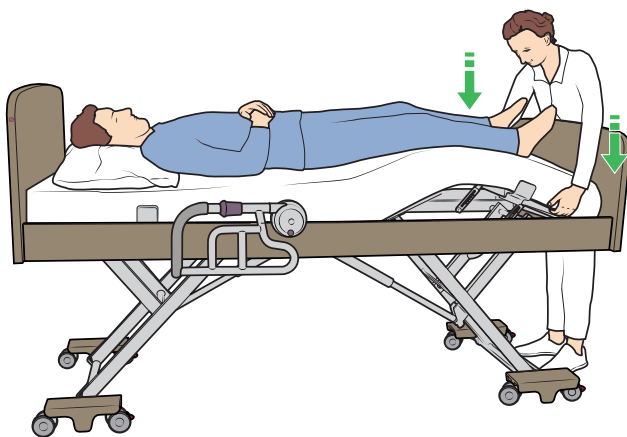

Figure 79
- To lower the calf section, lift the calf section to the maximum height and then lower it. See Figure 79.